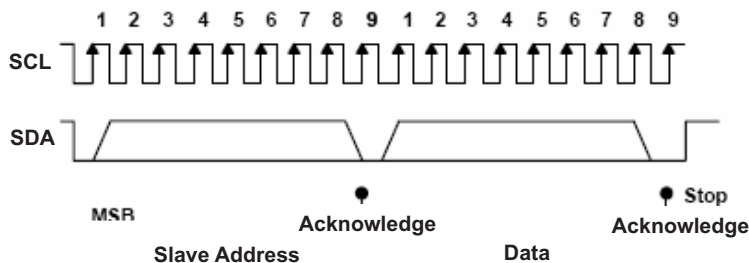

Figure 29. I²C Address And Data Cycles
- The master generates further SCL cycles to either *transmit* data to the slave (R/W bit 0) or *receive* data from the slave (R/W bit 1). In either case, the receiver needs to acknowledge the data sent by the *transmitter*. So an acknowledge signal can either be generated by the master or by the slave, depending on which one is the receiver. The 9-bit valid data sequences consisting of 8-bit data and 1-bit acknowledge can continue as long as necessary (See Figure 29).
- To signal the end of the data transfer, the master generates a *stop condition* by pulling the SDA line from low to high while the SCL line is high (see Figure 29). This releases the bus and stops the communication link with the addressed slave. All I²C compatible devices must recognize the stop condition. Upon the receipt of a *stop condition*, all devices know that the bus is released, and they wait for a *start condition* followed by a matching address.